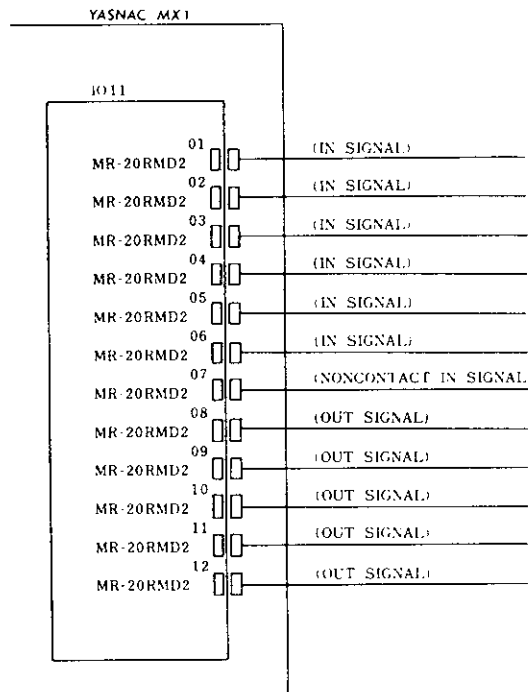

Fig. 13.2
(2) Fig. 13.2 and Fig. 14.3 show connector numbers of I/O modules.